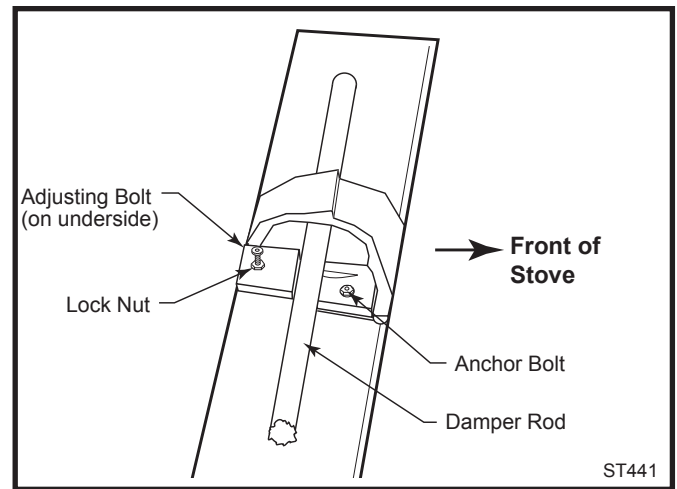

Fig. 37 Damper adjustment.
1. From inside the stove, first loosen and then remove the two (2) nuts on the threaded rods that secure the top plate to the inner top of the stove.
3. Loosen the adjusting bolt's lock nut. (Fig. 37)